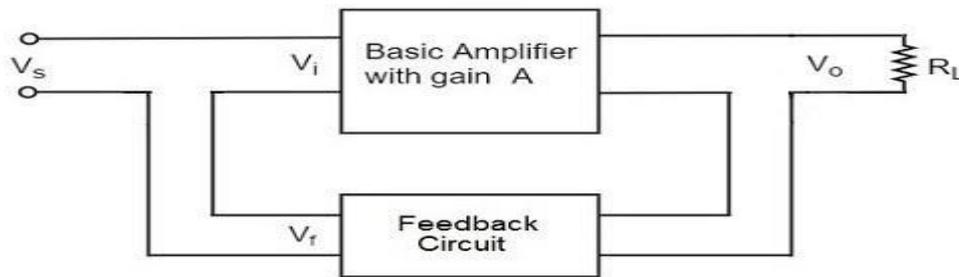

Fig.4. current series feedback circuit
- The following figure.4 shows the block diagram of current series feedback, by which it is evident that the feedback circuit is placed in series with the output and also with the input.